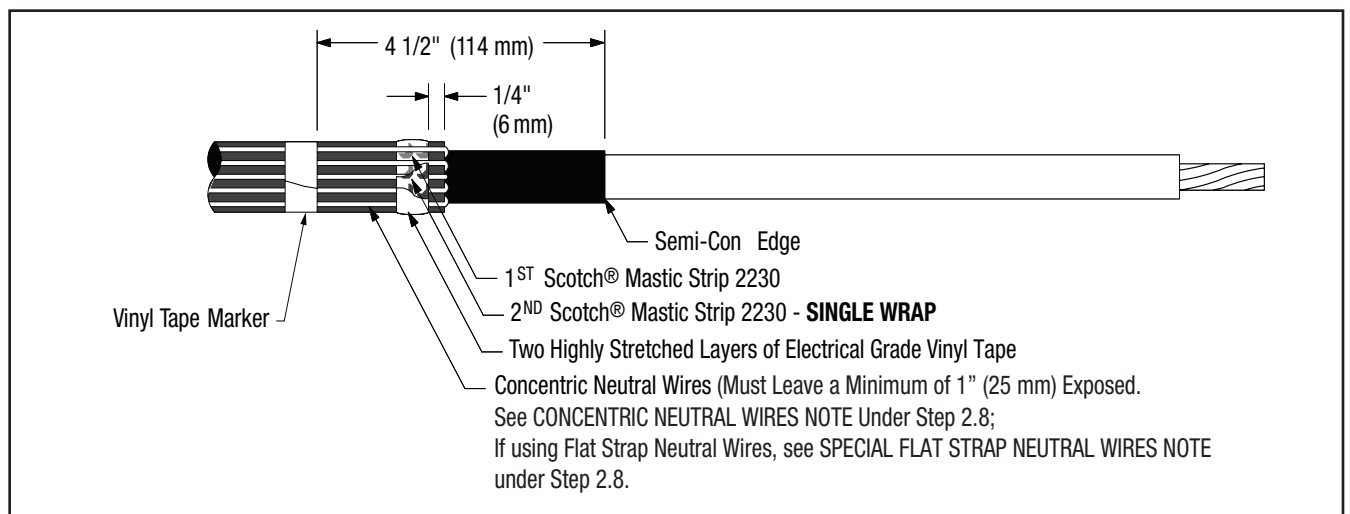

Figure 3
- 2.6 Bend neutral wires back over applied sealing mastic and secure to cable jacket **4 1/2" (114 mm) from cable semi-con edge using vinyl tape (see NOTE and Figure 3).**
- 2.7 Select second Scotch® Mastic Strip 2230 from kit and remove white release liners. Apply a second **SINGLE WRAP** of mastic over the neutral wires and previously applied mastic (Figure 3). Cut off excess.
- 2.8 Compress neutral wires into Scotch® Mastic Strip 2230 by over-wrapping seal strips with two highly stretched layers of electrical grade vinyl tape (Figure 3). **Be sure to cover all exposed mastic AND TO READ THE CONCENTRIC NEUTRAL WIRES NOTE, OR THE SPECIAL FLAT STRAP NEUTRAL WIRES NOTE, BELOW CONCERNING APPLICATION OF THE TWO HIGHLY STRETCHED LAYERS OF ELECTRICAL GRADE VINYL TAPE.**